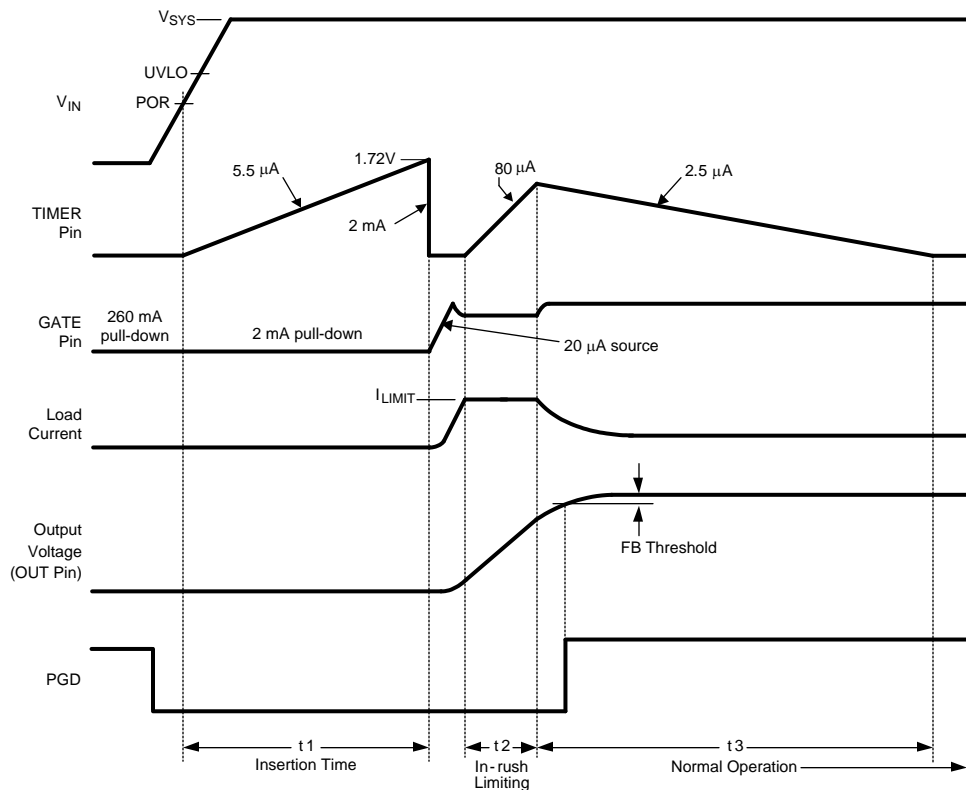

Figure 23. Power Up Sequence (Current Limit only)
The VIN operating range of the LM25061 is +2.9V to +17V, with a transient capability to 20V. Referring to the Block Diagram and Figure 21 and Figure 23, as the voltage at VIN initially increases, the external N-channel MOSFET (Q1) is held off by an internal 260 mA pull-down current at the GATE pin. The strong pull-down current at the GATE pin prevents an inadvertent turn-on as the MOSFET's gate-to-drain (Miller) capacitance is charged. Additionally, the TIMER pin is initially held at ground. When the VIN voltage reaches the POR threshold the insertion time begins. During the insertion time, the capacitor at the TIMER pin (C_T) is charged by a 5.5 μ A current source, and Q1 is held off by a 2 mA pull-down current at the GATE pin regardless of the VIN voltage. The insertion time delay allows ringing and transients at VIN to settle before Q1 is enabled. The insertion time ends when the TIMER pin voltage reaches 1.72V. C_T is then quickly discharged by an internal 2 mA pull-down current. The GATE pin then switches on Q1 when V_{SYS} exceeds the UVLO threshold. If V_{SYS} is above the UVLO threshold at the end of the insertion time, Q1 switches on at that time. The GATE pin charge pump sources 20 μ A to charge Q1's gate capacitance. The maximum voltage at the GATE pin is limited by an internal 19.5V zener diode.
As the voltage at the OUT pin increases, the LM25061 monitors the drain current and power dissipation of MOSFET Q1. In-rush current limiting and/or power limiting circuits actively control the current delivered to the load. During the in-rush limiting interval (t_2 in Figure 23) an internal 80 μ A fault timer current source charges C_T . If Q1's power dissipation and the input current reduce below their respective limiting thresholds before the TIMER pin reaches 1.72V the 80 μ A current source is switched off, and C_T is discharged by the internal 2.5 μ A current sink (t_3 in Figure 23). The in-rush limiting interval is complete when the load current reduces to the normal operating level. The PGD pin switches high when the output voltage exceeds the threshold programmed at the FB pin.
A charge pump provides the voltage at the GATE pin to enhance the N-Channel MOSFET's gate. During normal operating conditions (t_3 in Figure 23) the gate of Q1 is held charged by an internal $20\ \mu\text{A}$ current source. The voltage at the GATE pin (with respect to ground) is limited by an internal 19.5V zener diode. See the graph "GATE Pin Voltage". Since the gate-to-source voltage applied to Q1 could be as high as 19.5V during various conditions, a zener diode with the appropriate voltage rating must be added between the GATE and OUT pins if the maximum V_{GS} rating of the selected MOSFET is less than 19.5V . The external zener diode must have a forward current rating of at least $260\ \text{mA}$.
During the insertion time (t_1 in Figure 23) the GATE pin is held low by a $2\ \text{mA}$ pull-down current. This maintains Q1 in the off-state until the end of t_1 , regardless of the voltage at V_{IN} or $UVLO$.
Following the insertion time, during t_2 in Figure 23, the gate voltage of Q1 is modulated to keep the current or power dissipation level from exceeding the programmed levels. While in the current or power limiting mode the TIMER pin capacitor is charging. If the current and power limiting cease before the TIMER pin reaches 1.72V the TIMER pin capacitor then discharges, and the circuit enters normal operation.
A) Insertion Delay - Upon applying the system voltage (V_{SYS}) to the circuit, the external MOSFET (Q1) is held off during the insertion time (t_1 in Figure 23) to allow ringing and transients at V_{SYS} to settle. Since each backplane's response to a circuit card plug-in is unique, the worst case settling time must be determined for each application. The insertion time starts when V_{IN} reaches the POR threshold, at which time the internal 5.5 μA current source charges C_T from 0V to 1.72V. The required capacitor value is calculated from: